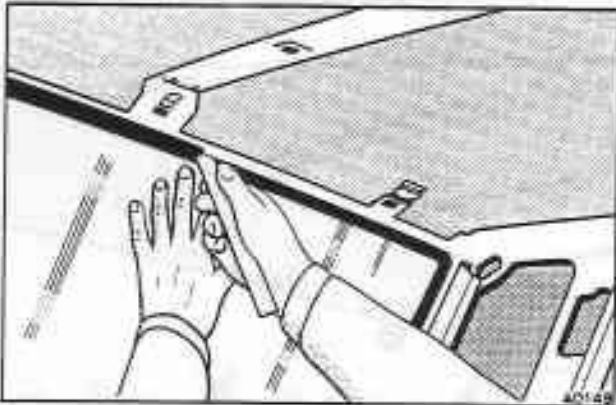

Fig. S9-2 Rear window removal
14. From inside the car, ease the lip of the seal over the body aperture flange (see fig. S9-2). A small steel rule or a similar tool will assist during this operation. Start in the top corners and work towards the centre, simultaneously applying pressure to the glass. An assistant will be required to support the glass/seal assembly as it is pushed out of the aperture. Avoid sharp blows as this may damage the glass or paintwork. A steady pressure is all that is required.